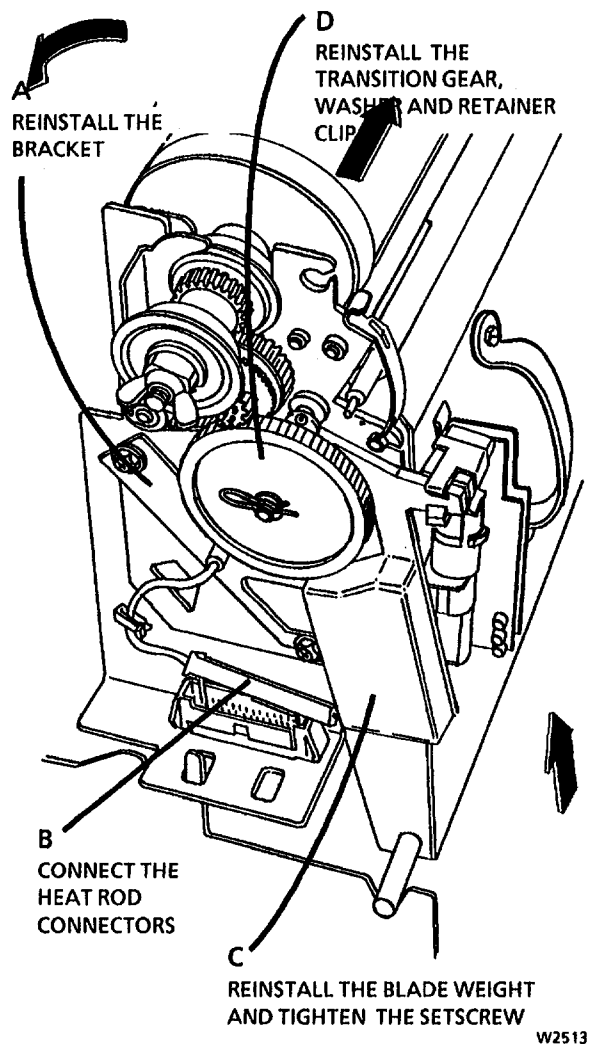

Figure 6. Completing the Installation
2. (Figures 6 and 7): Complete the installation of the heat rod.